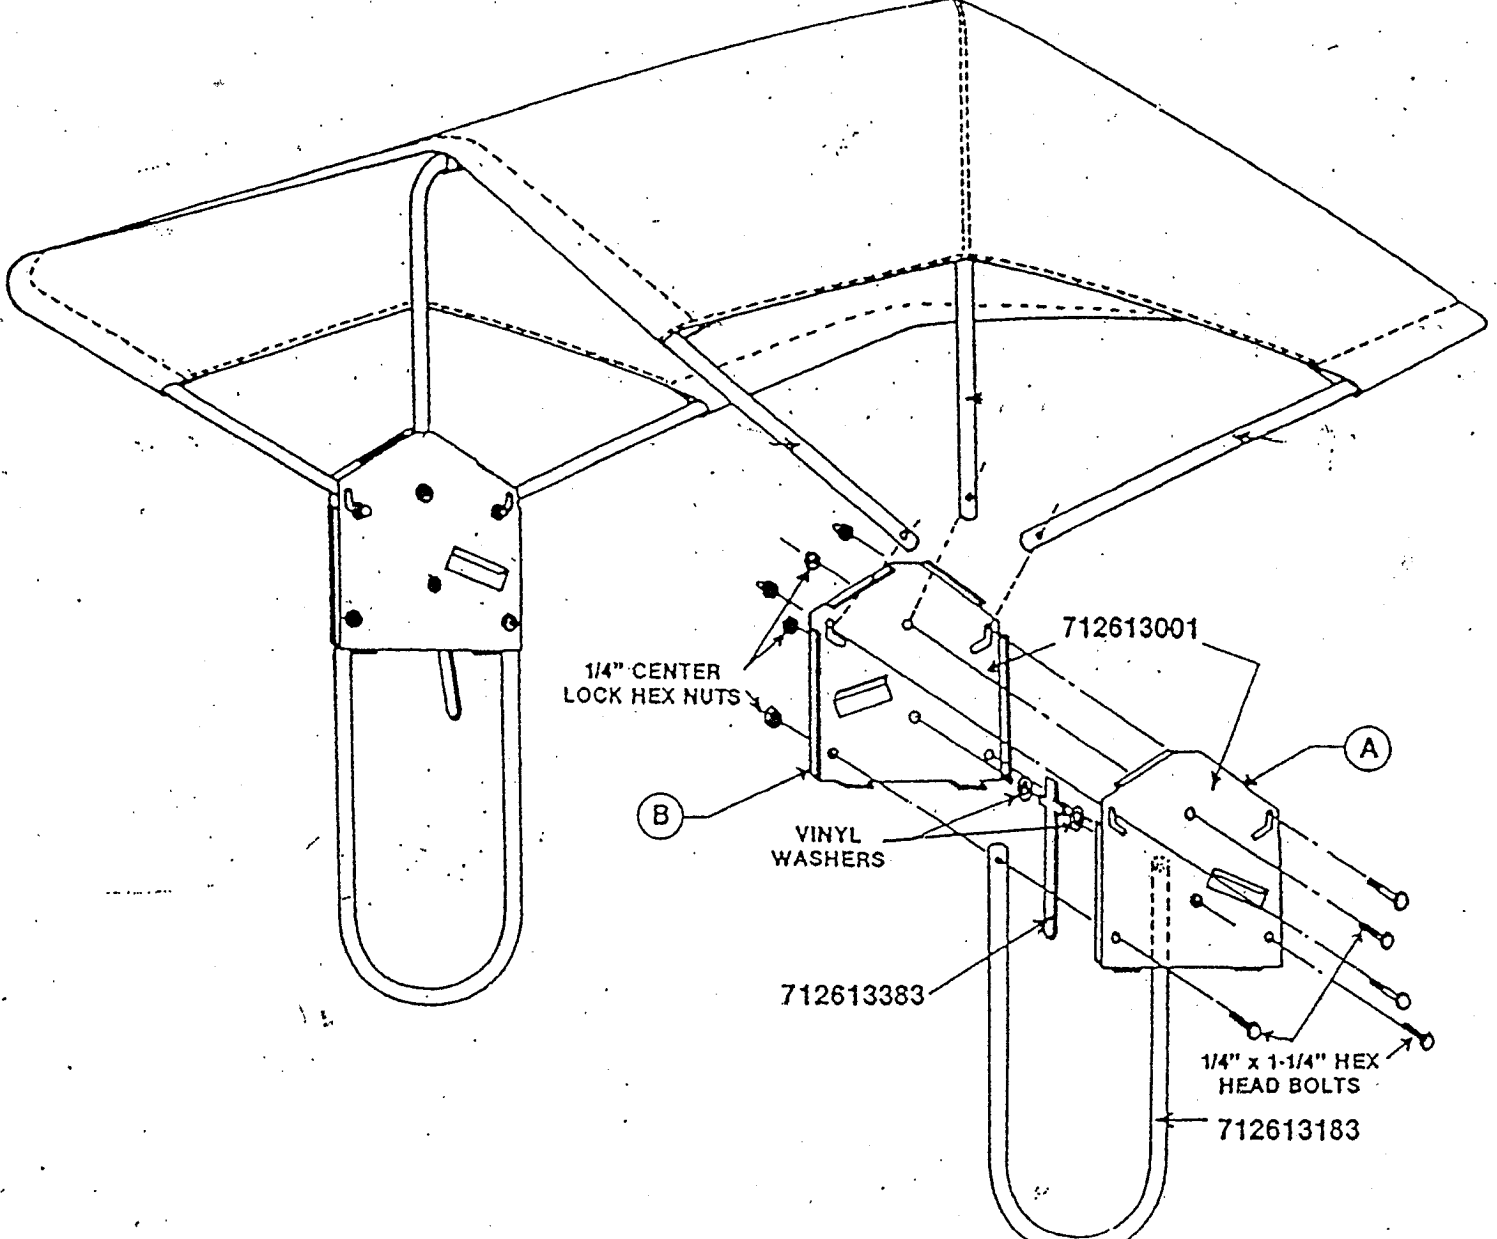

Figure 2
1. Insert two (2) 1/4"x1 1/4" bolts in lower holes of #712613001 (A). Lay on flat surface with threads up. ( see figure 2 on back of page.)
2. Place holes in #712613183 over bolts. (figure 2.)
3. Place vinyl washer on #712613183 tabs. Insert in lower center hole. (figure 2.)
4. Fasten #712613001 (B) using two (2) 1/4" lock nuts. (Do not fully tighten at this point.) Repeat steps 1-4 for opposite side. (figure 2.)
NOTE: Short bow goes in center of canopy. ( figure 2.)
7. Align holes in bows with remaining holes in # 712603001 assembly. Fasten using 1/4"-20x 1 1/4" bolts and 1/4" lock nuts. (Do not over-tighten. Allow bolts to rotate.) ( figure 2.)